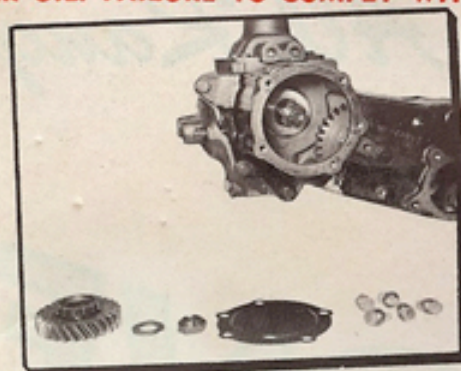

Fig. 1 — REMOVE DRIVE GEAR
3. Remove main drive gear as shown in Fig. 1. The number of teeth on this gear and the planetary housing gear must be the same.